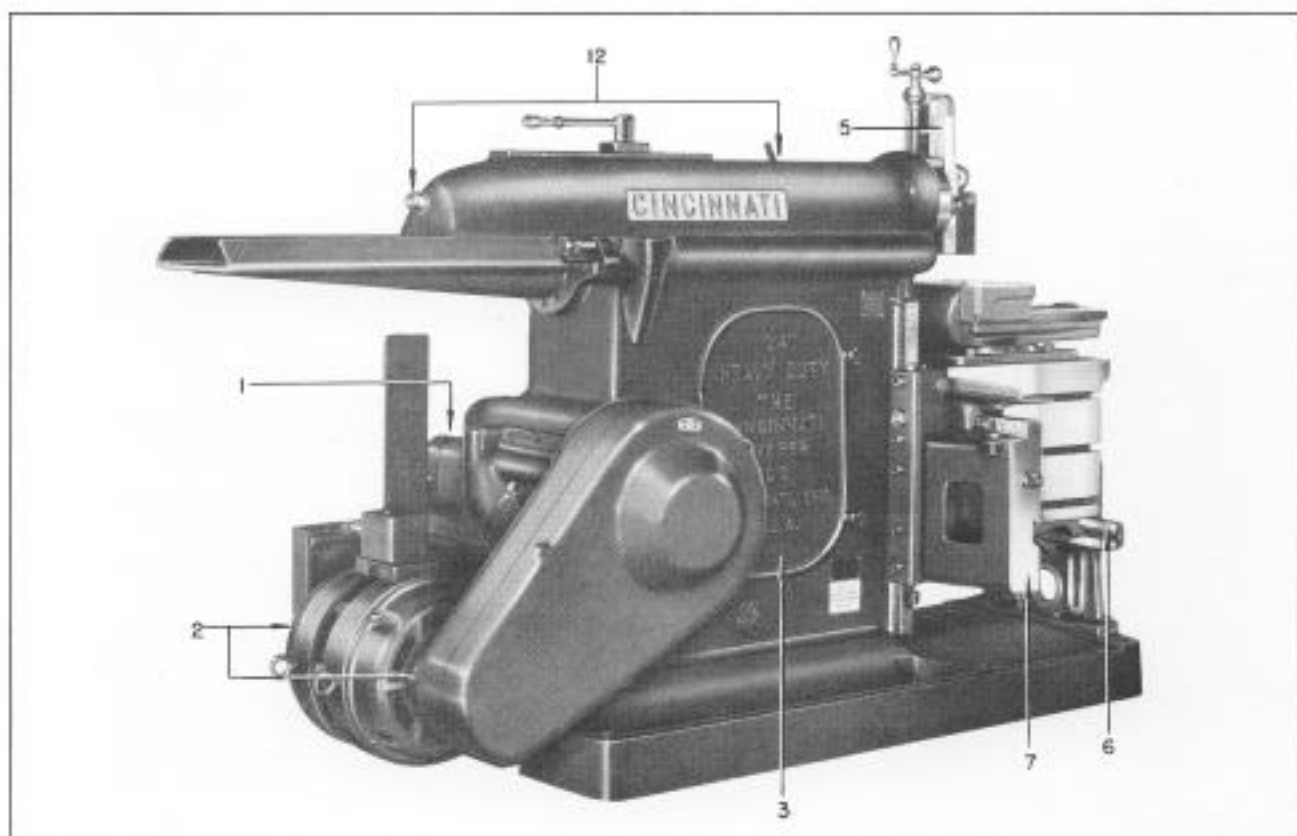
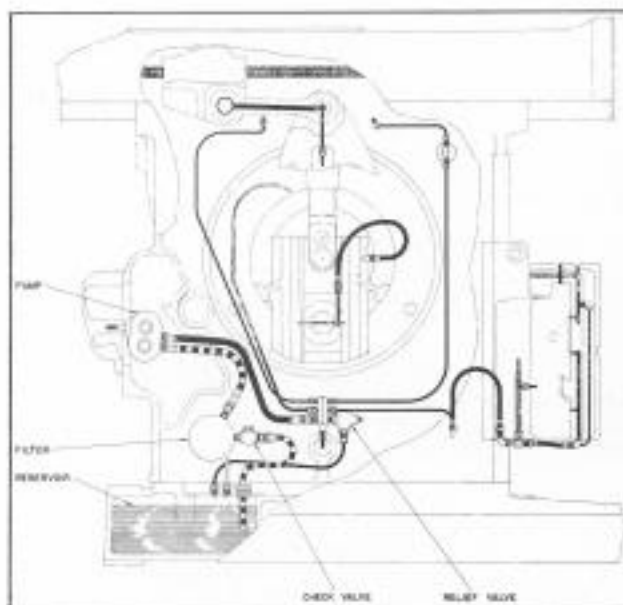

Fig. 5 Lubrication Points
Fig. 7 Oiling Diagram
For complete instruction, see Fig. 5 and Oiling Diagram, Fig. 7.
Before starting the Shaper the following four items must be performed see Figure 5 and 6 for location of oiling points.
1. Fill Transmission Reservoir until oil overflows into Return Basin. See Figure 7.
3. After filling Transmission Reservoir, open column door and fill Return Basin and Main Reservoir. See Figure 7. Fill until oil shows in sight window in base.